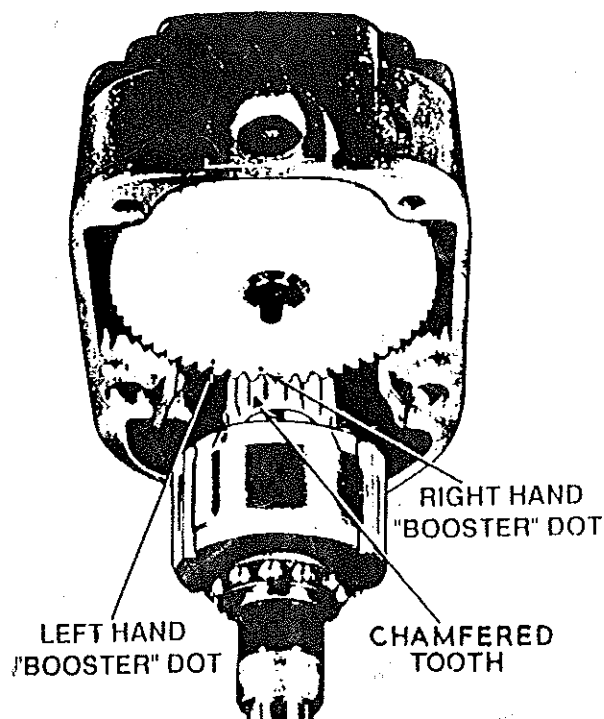

Figure 907. Correct Meshing of Distributor and Drive Gears Counterclockwise S6LN Type Magneto with Retard Contact
- A. Coat housing pole shoes and magnet pole pieces with rust preventive. Spread 3 drops of SAE No. 30 oil on surface of sleeve bearing (69). Position magnet (54) in distributor housing (48), being careful not to damage cam as it enters contact compartment.
- B. Mesh distributor gear (72) with pinion gear (67) such that chamfered tooth of pinion gear (67) aligns with mark painted in accordance with paragraph 7.2.2 step E. See Figure 907.
- C. From lead of coil at a right angle with magnet housing so it can be threaded through passage in distributor housing and into breaker compartment. Position gasket (49), if used, between housings (48 and 50). Push housings straight together, allowing magnet shaft to extend through distributor housing. Be sure bearing parts mate properly. Do not allow housings to twist or turn as this may break carbon brush. See that carbon brush rests on coil high tension terminal and secure housings together using screw with lockwashers (47) tightened with sealing torque of 4 to 8 lb-in. When all screws have been seated, final tighten with 25 to 35 lb-in. of torque and recheck to make certain magnet turns freely and has no bearing play.